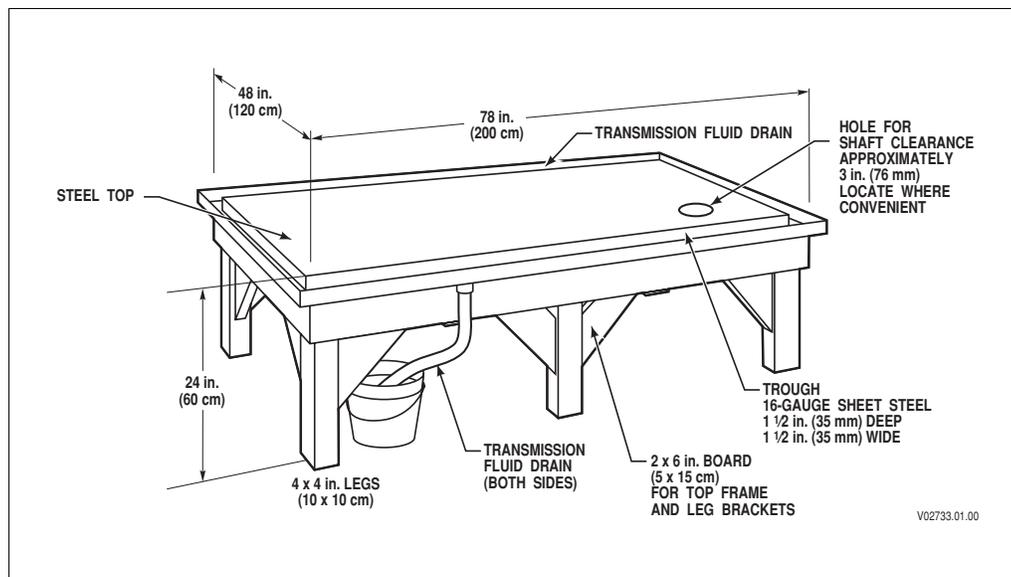

Figure 4-1. Work Table
- Work Table—500 kg (1000 lb) capacity (Figure 4-1)